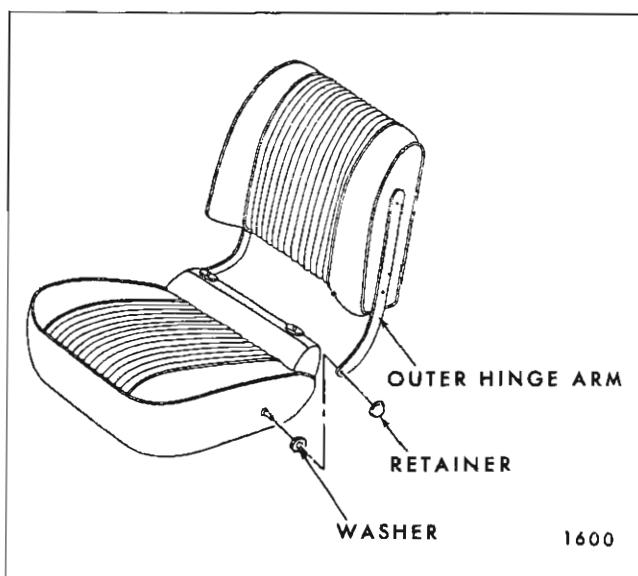

Fig. 1H19—Bucket Seat Back Removal — "A" Styles
1. Using a flat-bladed tool, carefully remove retainer from outer hinge pin (Fig. 1H19).
is installed over inner and outer hinge pins (Fig. 1H19). If retainers are damaged, replace retainers using new parts.